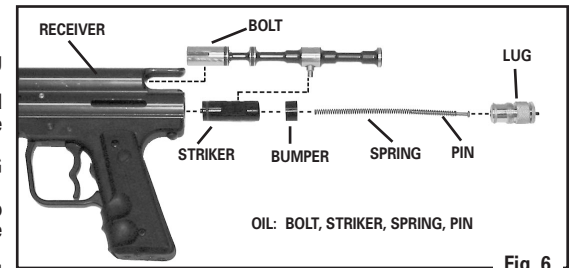

Fig. 6
- With the paintball marker "On Safe" (See Step 2A), and the CO2 source removed (See Step 3B), unscrew the LUG. (Fig. 6)
- After drying, IMMEDIATELY oil the parts with paintball marker oil as indicated in Fig. 6. DO NOT use a petroleum distillate based oil or solvent as they can cause damage to your paintball marker.
- Assemble the BOLT and STRIKER together and push them back into the RECEIVER as shown in Fig. 6. IMPORTANT: You must be pulling the trigger at the same time in order for the parts to fit completely back into the RECEIVER.